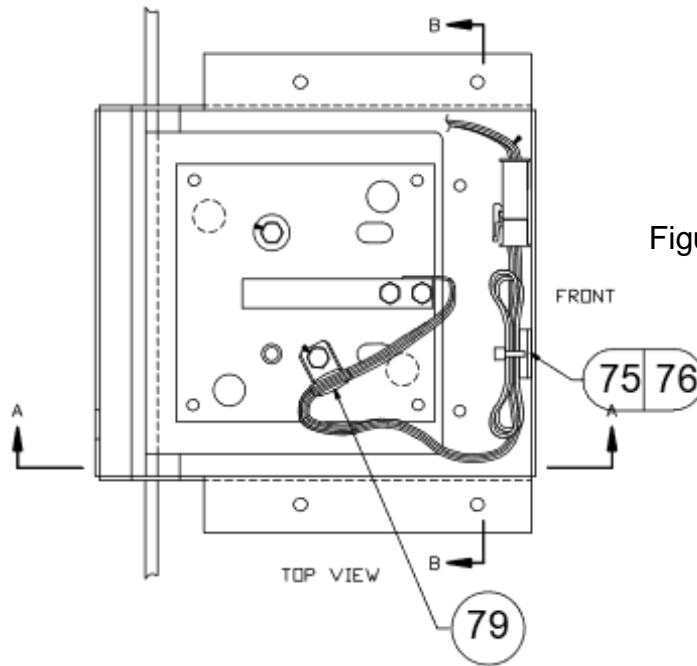

Figure 2-3
- C. Locate the cable tie mount (#75) in the bracket approximately as shown. Secure the load cell cable in place with wire tie (#76). Insure cables *do not touch live portion of the load cell*. See figure 2-3.